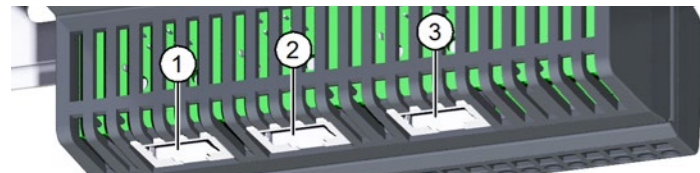

Fig. 4: Ethernet interfaces on the CUB100 module
- ETH-0.1 (item 1 in Fig. 4)
- ETH-0.2 (item 2 in Fig. 4)
- ETH-1 (item 3 in Fig. 4)
- ▶ Connect the Ethernet interfaces (see Fig. 4) to suit your planned topology.